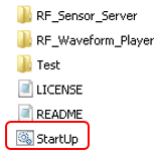

Figure 1: Start up in directory
- a) Locate and double click the “Startup.bat” file located in the “RF Sensor Test Harness master” folder as shown in Figure 1.